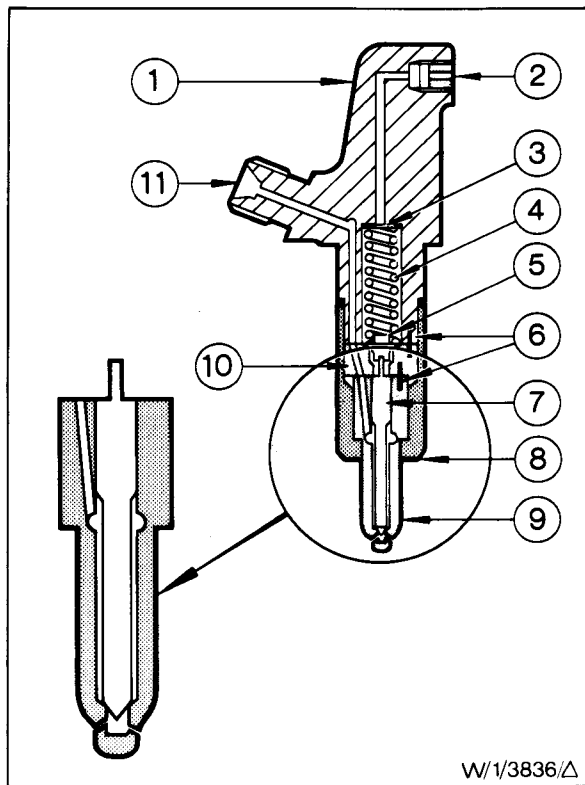

Fig. 87 - Injector - Section View
1. Place the injector on the dismantling jig (TOOL NO. HH112) and remove the nozzle nut using the socket (TOOL NO. CT 9009). Remove the nozzle and needle valve, the spacer, the spring seat and the spring. Remove the pressure adjustment shims from the top of the spring recess, these may be held in by suction (Fig. 87).